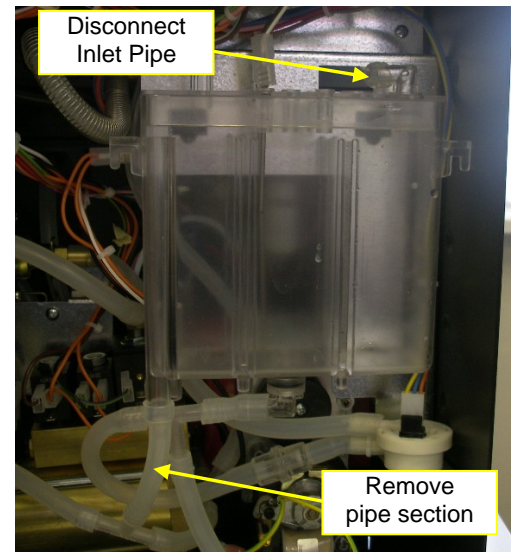
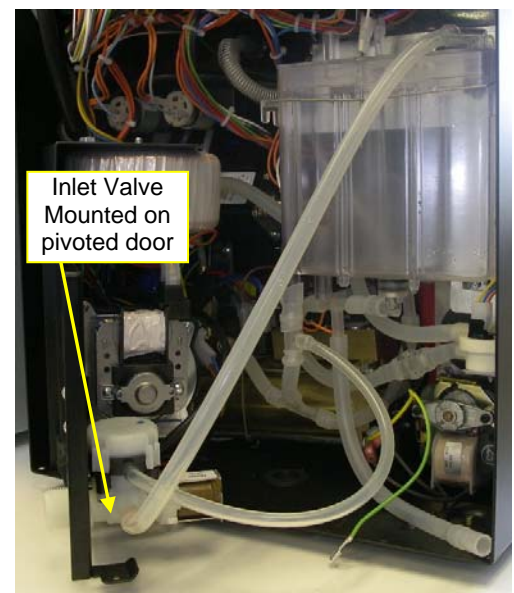

Fig. 1
Fig. 2
- 4) Remove blanking plate and mount the inlet valve in the hole provided on the pivoted door (fig. 2)
- 5) Disconnect the water inlet hose from the top of the header tank (fig. 1). Replace with the 11mm pipe supplied in the kit. The other end of 11mm pipe should already be connected to the inlet valve.
- 6) Disconnect, from both ends, and remove the pipe attached to the bottom of the header tank shown in (fig. 1) Replace with the supplied pipe with the T-Piece attached, connect the shorter part of the T-Piece to the bottom of the tank. The Longer part of the T-Piece should be trimmed shorter if required and then connected to the existing T-piece in the machine (Fig. 2)